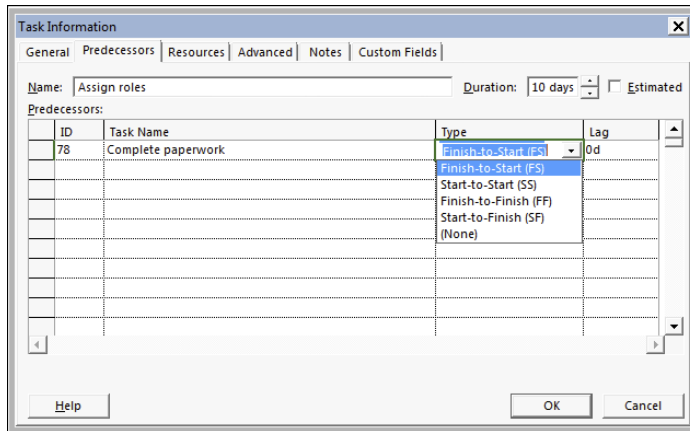

Figure 4-6:
2. **Click the Predecessors tab, as shown in Figure 4-6.**
5. Click the **Type** column and click the arrow that appears to display the dependency types, and then click the appropriate dependency for your situation (refer to Figure 4-6).